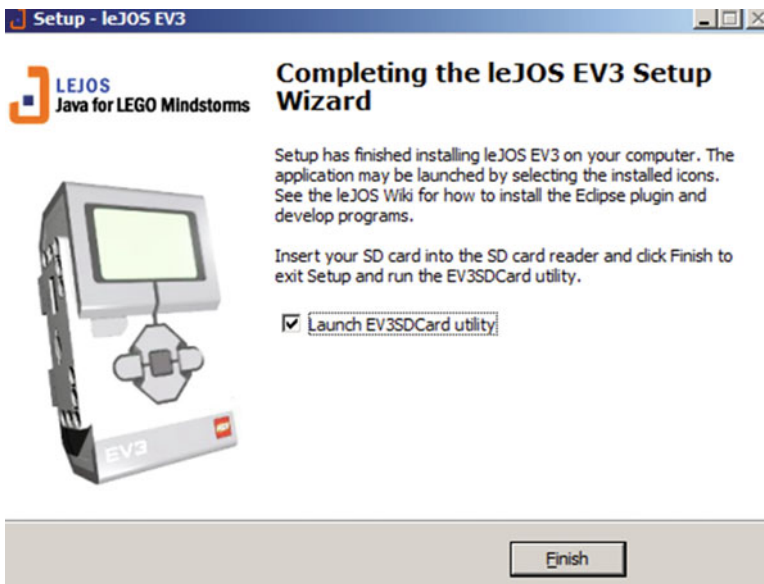

Figure 1-15. Finishing the leJOS installation
8. Double-check to see if all of the settings are OK, and then click Install. You will see the installation progress bar, and eventually you will see the screen shown in Figure 1-15.